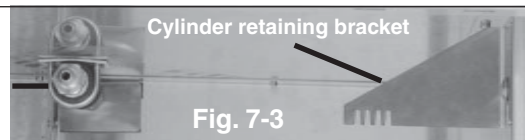

Fig. 7-3
- Gas cylinder is held securely in place with the cylinder retaining bracket (Fig. 7-3).